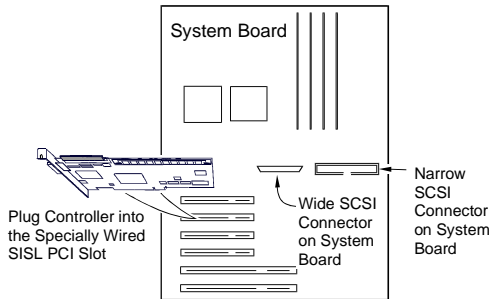

Figure 9. Plugging the AcceleRAID into a Prewired SISL PCI Slot
3. Plug the AcceleRAID card into the specially prewired SISL PCI slot. See the documentation provided with your system board to locate this special PCI slot (see Figure 9).